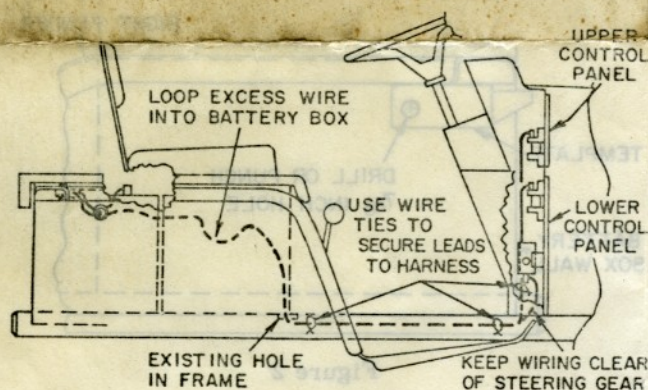

Figure 4
10. Thread the long wire through the under-carriage harness tubing into the lower control cabinet, and connect it to the PTO contactor as shown in Figures 4, 5 and 6. Lay the wire along the existing wire harness and fasten it with wire ties to give a neat and firm support below the frame and in the control cabinet.